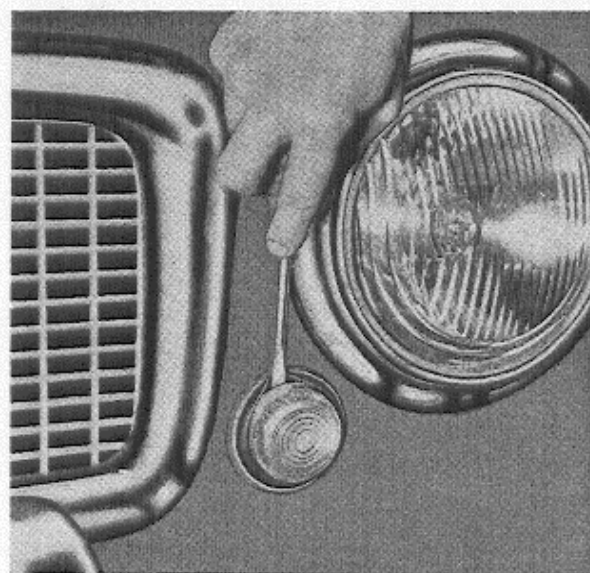

Fig. 25.
2. Release the glass in the same way, see fig. 25.